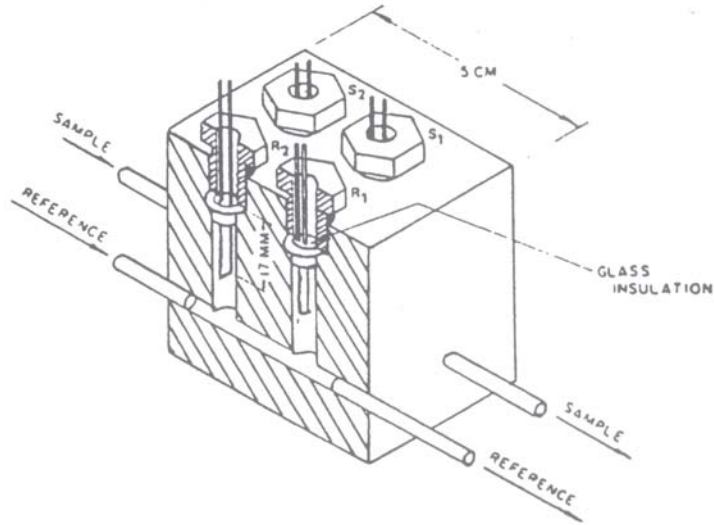

Figure 7
6. Loosen the tube nuts and remove the filaments (one at a time) from the shipping QUAD. Place the filaments in the proper detector cavity (REFERENCE AND SAMPLE according to the detectors' flow configuration, Fig. 7) making sure to keep the filament helix away from gas flow inlet. If you are installing pairs of filaments, make sure you pass the leads through the tube nuts before inserting them into the detector block. Quads are shipped with tube nuts for use when replacing the new filaments.